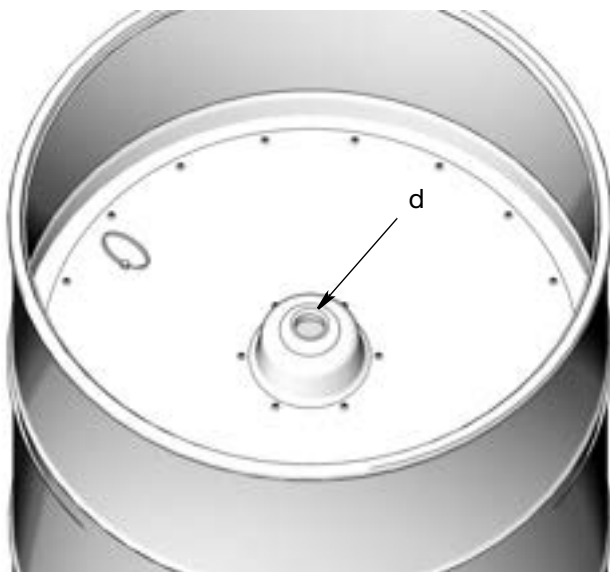

FIG. 8
- Set follow plate on top of fresh grease (FIG. 8). Remove air by pushing on the follow plate until the